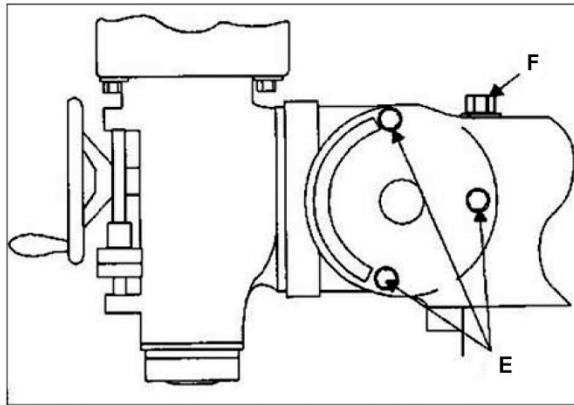

Figure 11: Mill head movement
a. Loosen the three ram adapter clamp bolts (E, Figure 11). There is no need to loosen the bolts more than one-half (1/2) turn to allow tilting.
c. Turn ram adapter worm nut (F, Figure 11) to tilt head forward and backward. Use scale on ram adapter to locate desired angle.
g. Read dial indicator. The indicator should read zero. If not, loosen adaptor bolts (E, Figure 11) and reposition mill head.
i. When indicator reads zero, tighten ram adapter clamp bolts (E, Figure 11).